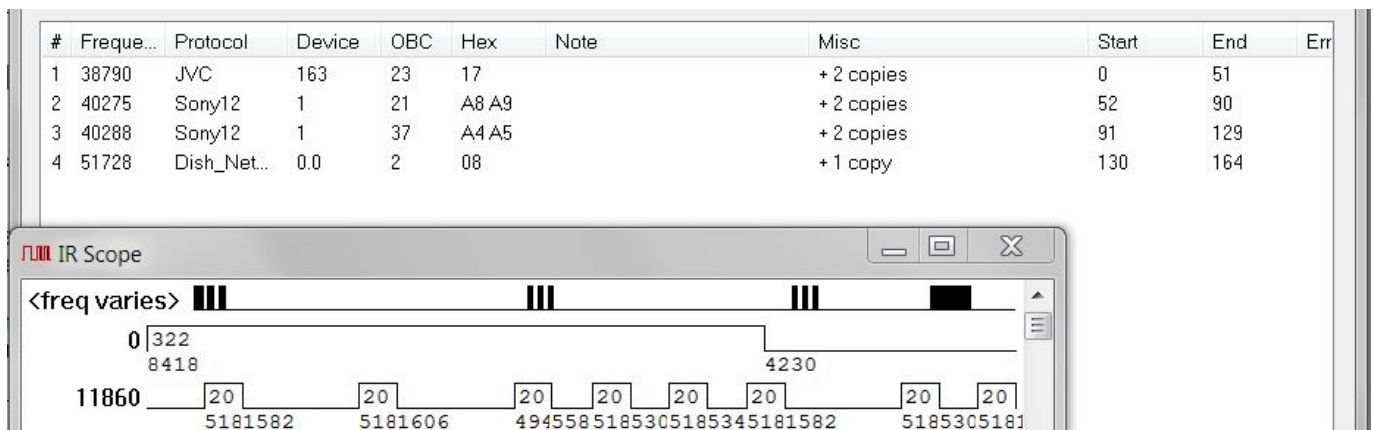
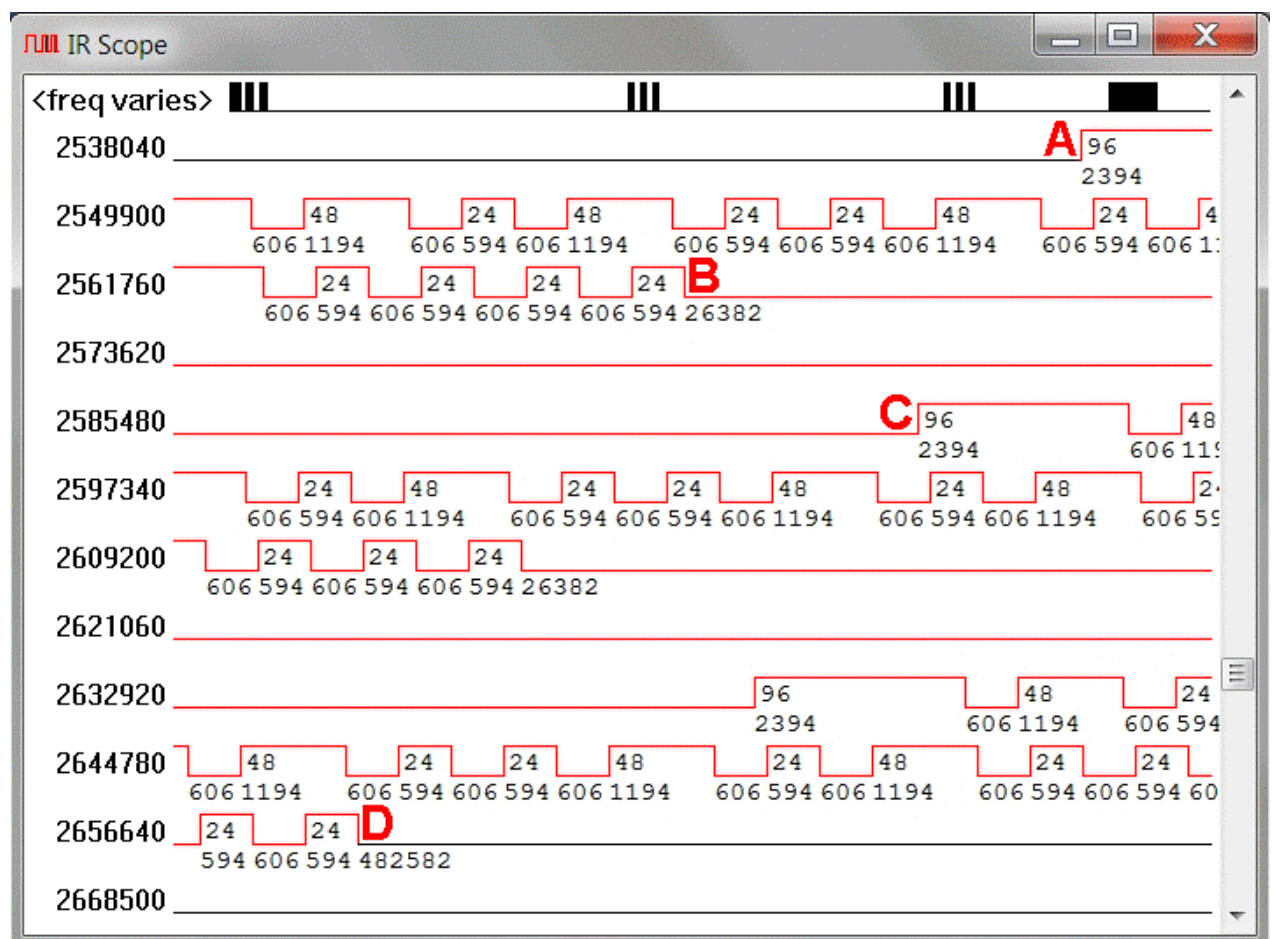

Figure 8. 3.5-Second Capture of Macro Containing Four Commands
Figure 9. Waveform Display of Macro Command #3
10. TAKING TIMING MEASUREMENTS FROM A WAVEFORM. Since waveforms are drawn to exact scale and labeled with elapsed time at the start of each line as well as the duration of all carrier ON and OFF times, you can often just read the time you're interested in, or find it by adding a few values. As an example, suppose I wanted to find the time between the first and second frames of the third command of the macro of Figure 8. First I double-click on item 3 in the decode area so that the Waveform Selection Tool immediately displays command #3 highlighted in red, as shown in Figure 9. The time we are looking for is from **B** (the end of frame #1) to **C** (the
beginning of frame #2). That's the same as the OFF time of **26382**μs shown right below the line at **B**. Too simple. Let's make the example more complicated. Suppose I wanted to find the total length of the third command, from **A** to **D** in Figure 9. I'll show you three ways to do that, and you can decide which you prefer.